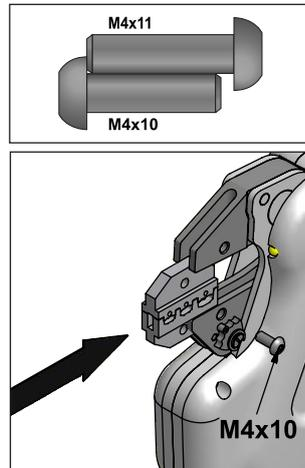

Figure 5
8.1.1 Fitting die sets without additional positioning guides, e.g. for insulated/non-insulated cable connectors, through and coax connectors, wire-end sleeves, RJ plugs, etc. (Figure 5, 6)
2. Push the closed crimping die set – as shown in Figure 5 – into the socket on the die until the lower piece of the die set can be loosely screwed into place by means of the M4x10 screw.
2. Push the closed crimping die set – as shown in Figure 5 – into the socket on the die until the lower piece of the die set can be loosely screwed into place using the M4x16 screw.